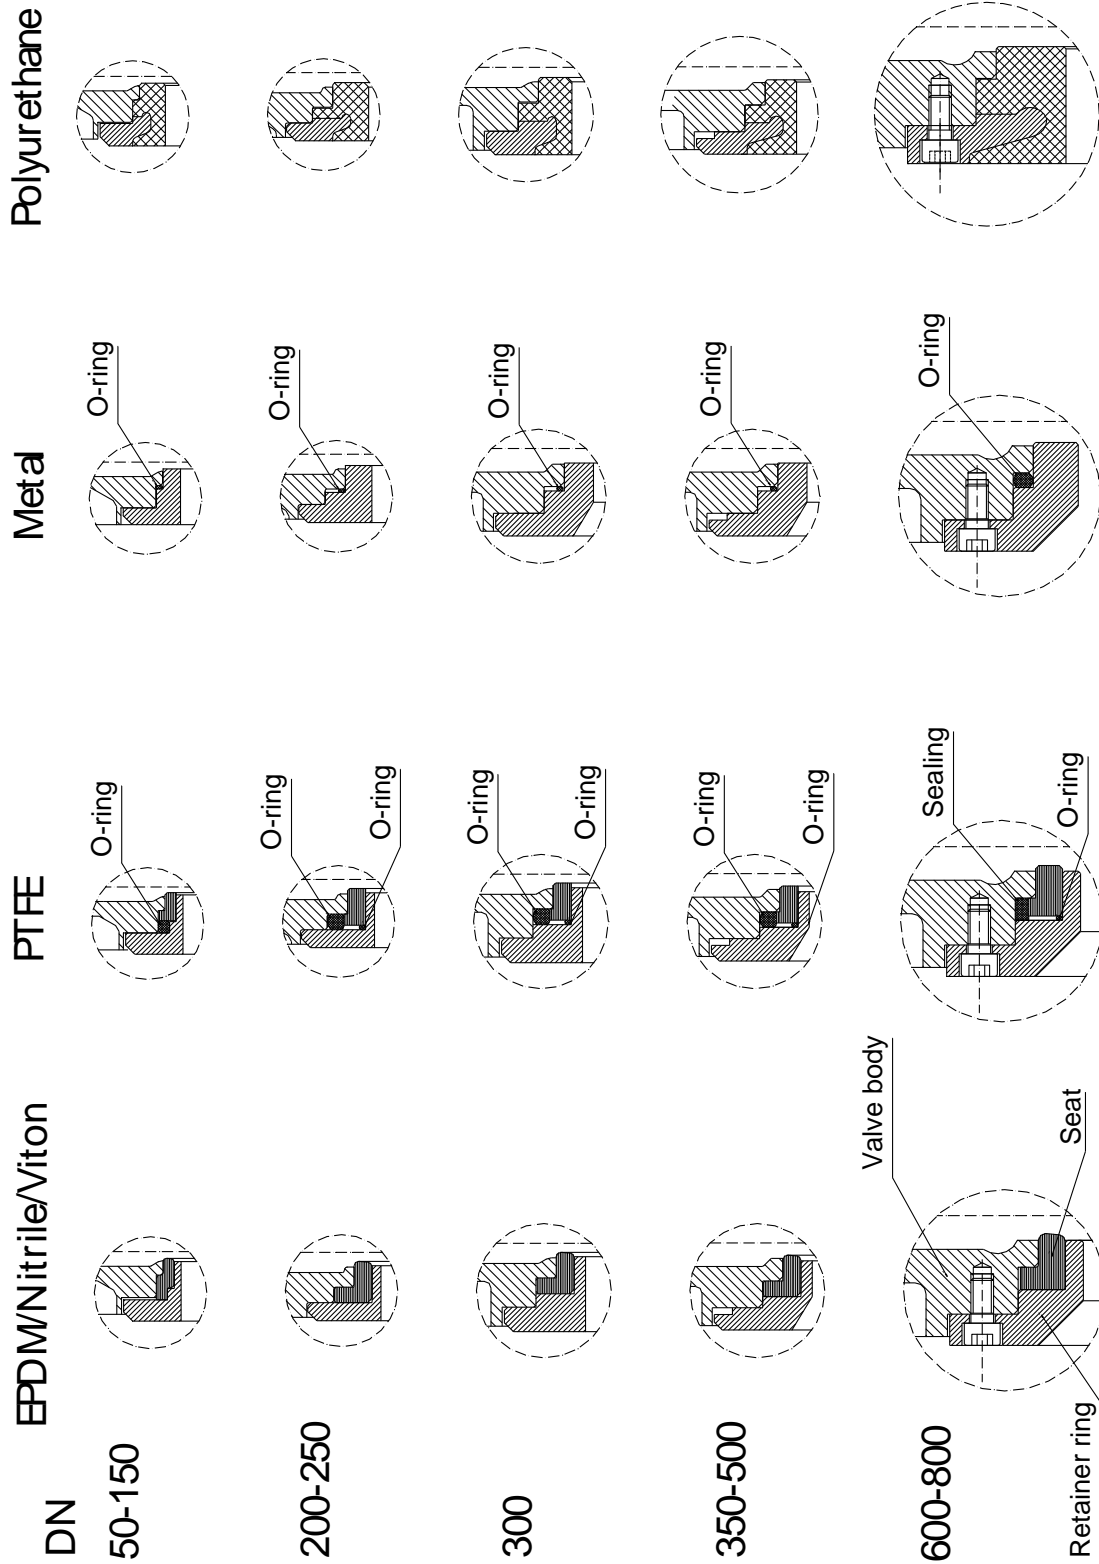

Figure 3
6. Install a new seat (**13**) on the retainer ring (**12**) and place the retainer ring in the valve body (**10**). For PTFE or metal seat, o-rings must also be installed, see fig. 3. Lubricate the seat and the o-rings with a synthetic lubricator to make the installation easier.